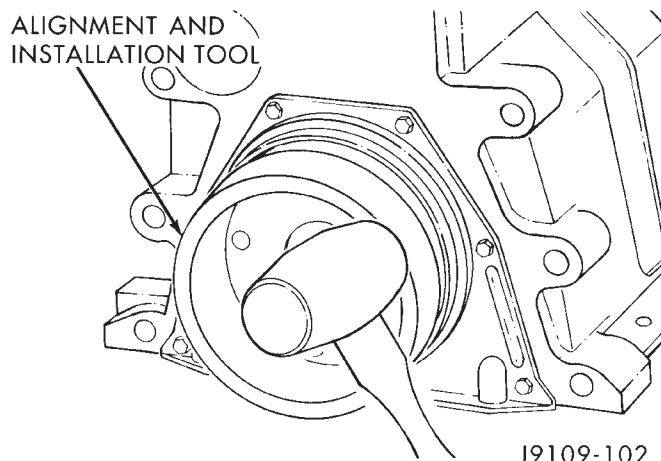

Fig. 97 Crankshaft Rear Seal Alignment/Installation Tool
(7) Use alignment and installation tool packaged in the seal kit (Fig. 97). Alternately, drive the seal at the 12, 3, 6 and 9 o'clock positions to prevent bending the seal carrier during installation.